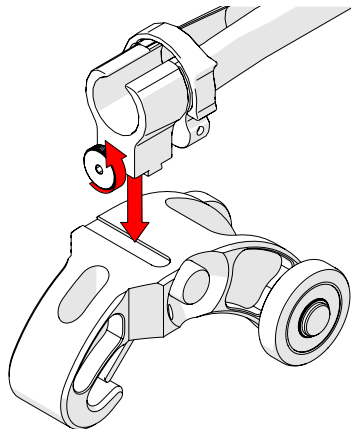

Fig. 70 - Loosen and slide on
1. Loosen the knob on the cable management dovetail mount. Position the mount onto the red dovetail link (Fig. 70).